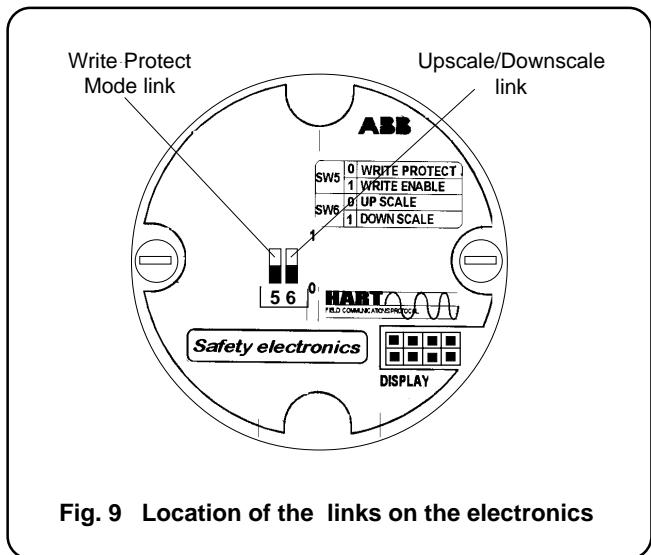

Fig. 9 Location of the links on the electronics
disabled. The Safety 600T pressure transmitter is protected against undesirable configuration changes by a dedicated hardware link placed on the secondary electronics board which is identified as Write Protect Mode Link (see fig. 9).
- iii) the Write Protect Mode link, located on the electronics module is in position ON (write allowed). Access to the link is gained by unscrewing the secondary unit housing cover at the opposite end to the terminal cover (See Fig. 9).
- iv) the Upscale/Downscale link is positioned to the required function: ON for Downscale OFF for Upscale (see Fig. 9).